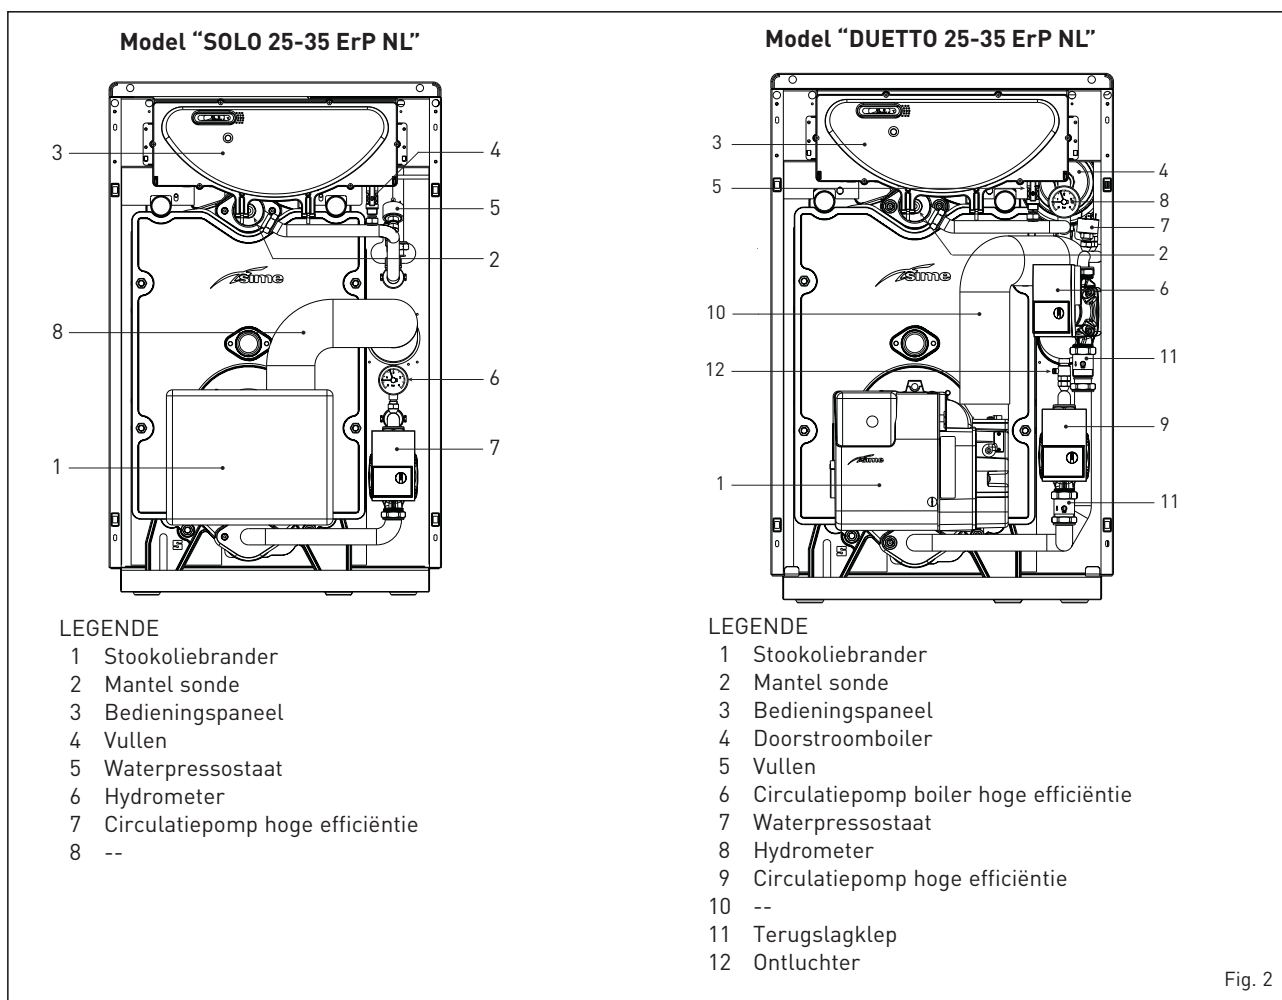

Fig. 2
1.4 VOORNAAMSTE ONDERDELEN (fig. 2)